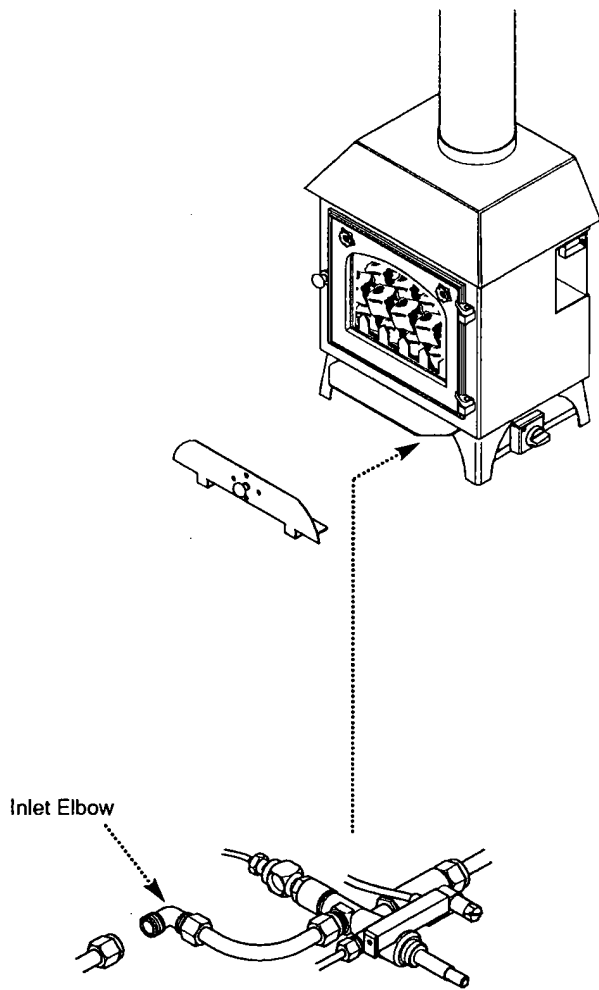

Fig.7
3. Purge the gas supply and connect it to the stove inlet elbow (Fig. 7). Check for gas soundness with leak detection fluid (to BS 6891).